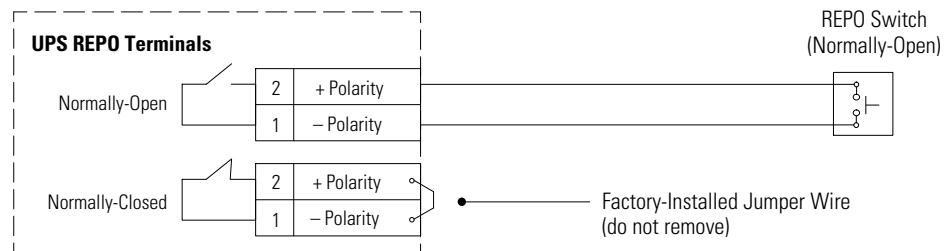
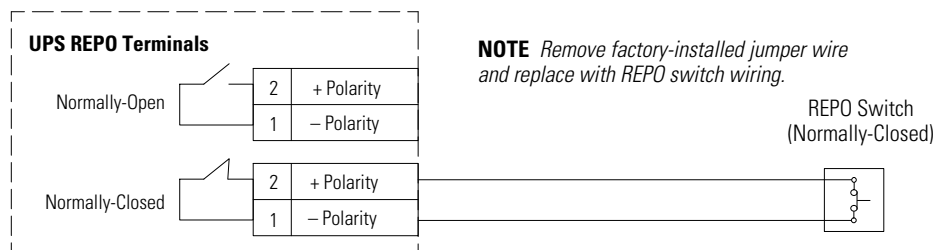

Figure 78. Normally-Open REPO Switch Wiring in a Standalone UPS
Figure 79. Normally-Closed REPO Switch Wiring in a Standalone UPS
3. Connect the appropriate external switch to the selected REPO contact. See Figure 78 for NO REPO wiring and Figure 79 for NC REPO wiring.